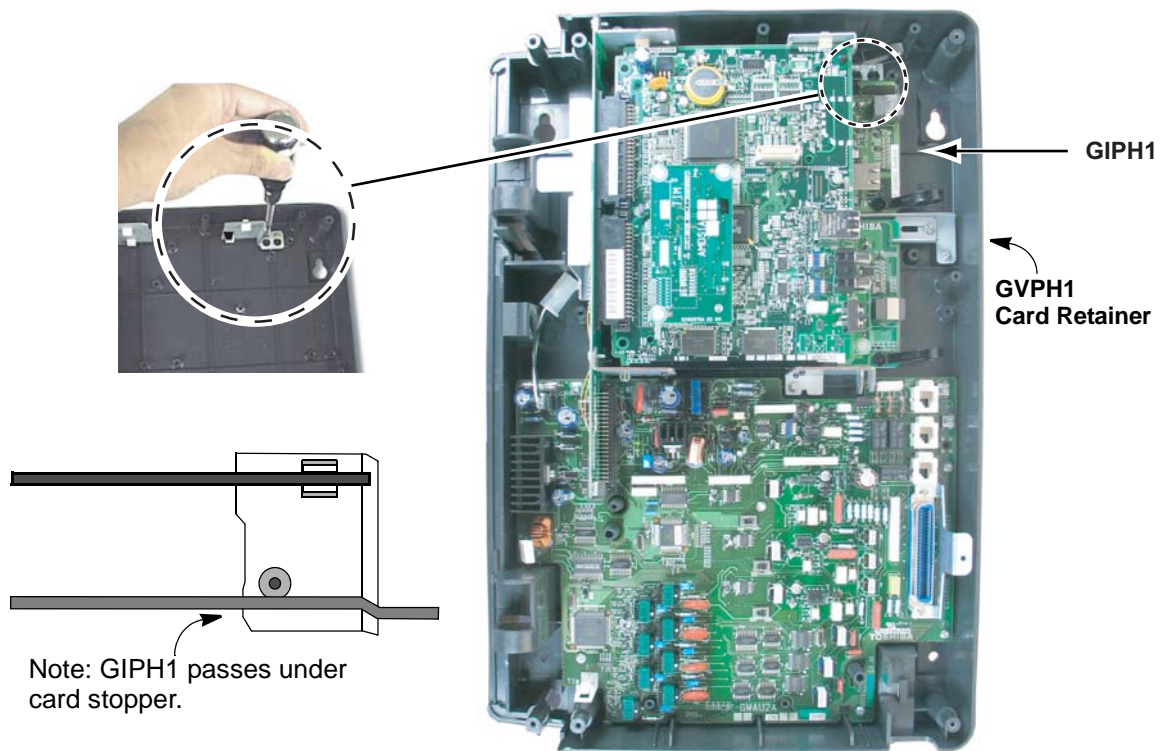
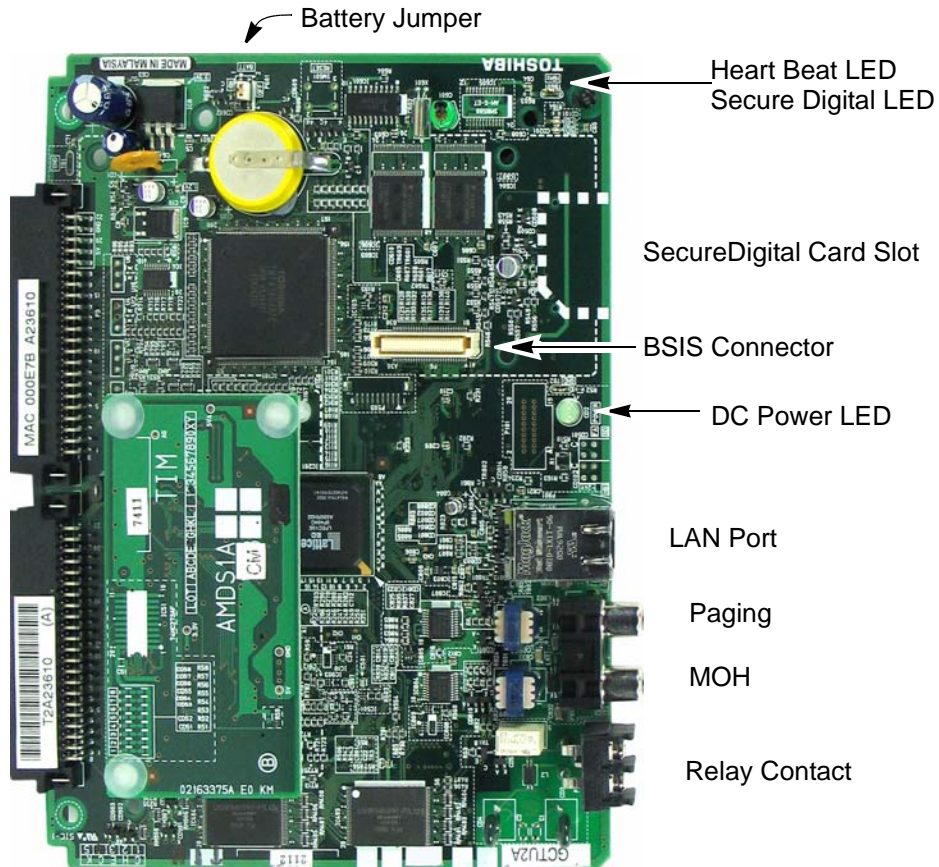
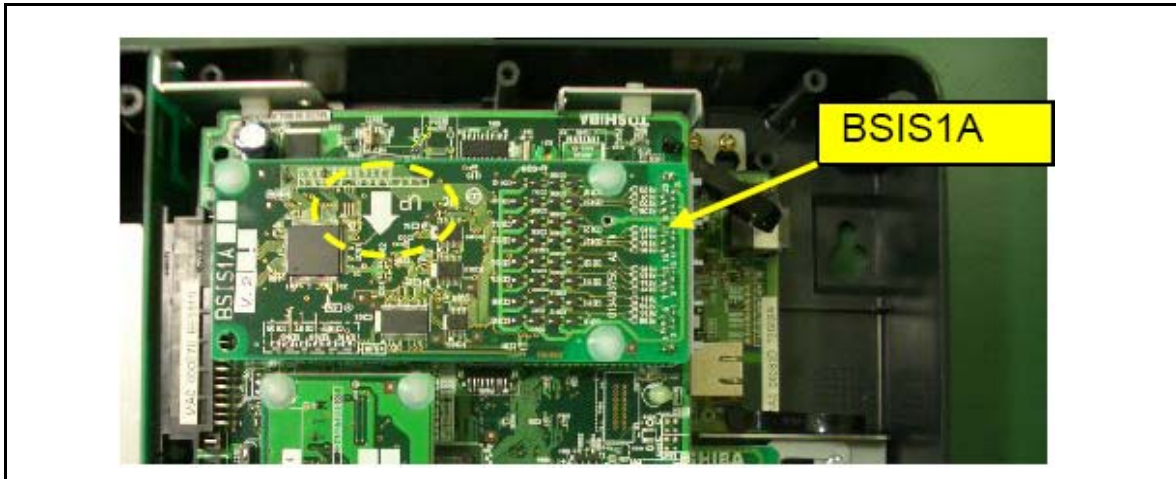

Figure 1-21 GIPH1 / GCTU2 PCB Stopper
Figure 1-22 GCTU2 PCB
Figure 1-26 BSIS Card
5. Install the GVPH1 into the lower slot of the GMAS (sub-motherboard) (refer to Figure 1-10, Figure 1-11 and Figure 1-21).
2. In the CIX40 cabinet, remove the two screws and the PCB stopper (Figure 1-21).
4. Install the GCOCIH into the GMAS (sub-motherboard) (see Figure 1-10, Figure 1-11 and Figure 1-21).
4. Install the GIPH, GIPU8, or MIPU into the GMAS (sub-motherboard) (see Figure 1-10, Figure 1-11 and Figure 1-21).
6. Install the MIPU into the GMAS (sub-motherboard) (see Figure 1-11 and Figure 1-21).
1. If you have not already removed the PCB stopper, remove the two screws and the PCB stopper (see Figure 1-21).
2. Set the P601 battery jumper to ON (see Figure 1-22) and insert the GCTU2 in the upper slot of the GMAS sub-motherboard (see Figure 1-10 and Figure 1-11). Place it next to the guide rail of the PCB stopper (see Figure 1-21).
4. Insert the SecureDigital card (gold contacts to left and front, notched corner faces forward and down) into the SecureDigital slot on the GCTU2 (see Figure 1-22).
- To install the BSIS, align the BSIS pins over the GCTU2 and press down firmly (see Figure 1-22). Note that if the BSIS card has an “Up Arrow” it will be pointed down. This is normal, it does not require adjustment, refer to Figure 1-26.